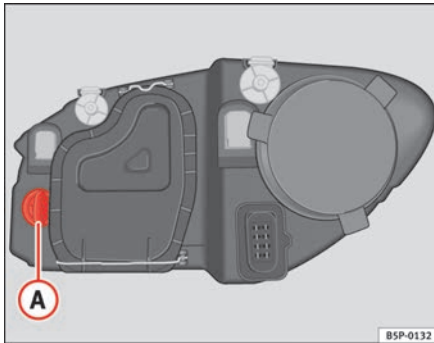

Fig. 177 Turn signal lamps
- Rotate the lamp holder ⇒ fig. 177 **A** to the left and pull.